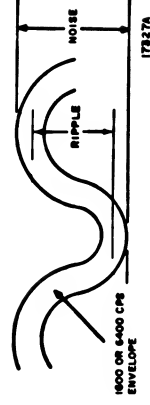

Figure 1. Typical Ripple and Noise Pattern
9. Measure peak-to-peak ripple voltage on oscilloscope, as shown in figure 1, and record.
10. Measure peak-to-peak noise on oscilloscope, as shown in figure 1, and record.
32. Measure peak-to-peak noise on oscilloscope, as shown in figure 1, and record.
44. Measure peak-to-peak ripple voltage on oscilloscope, as shown in figure 1, and record.
45. Measure peak-to-peak noise, on oscilloscope, as shown in figure 1, and record.
54. Measure peak-to-peak ripple voltage on oscilloscope, as shown in figure 1, and record.
55. Measure peak-to-peak noise on oscilloscope, as shown in figure 1, and record.